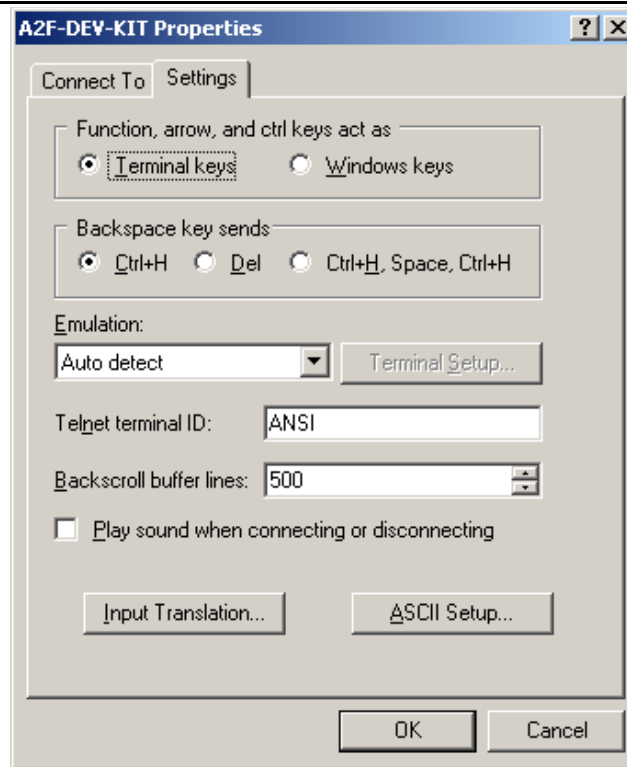

Figure 9 • HyperTerminal Properties
4. Select **File > Properties** in the HyperTerminal window. Choose the **Settings** tab (Figure 9).